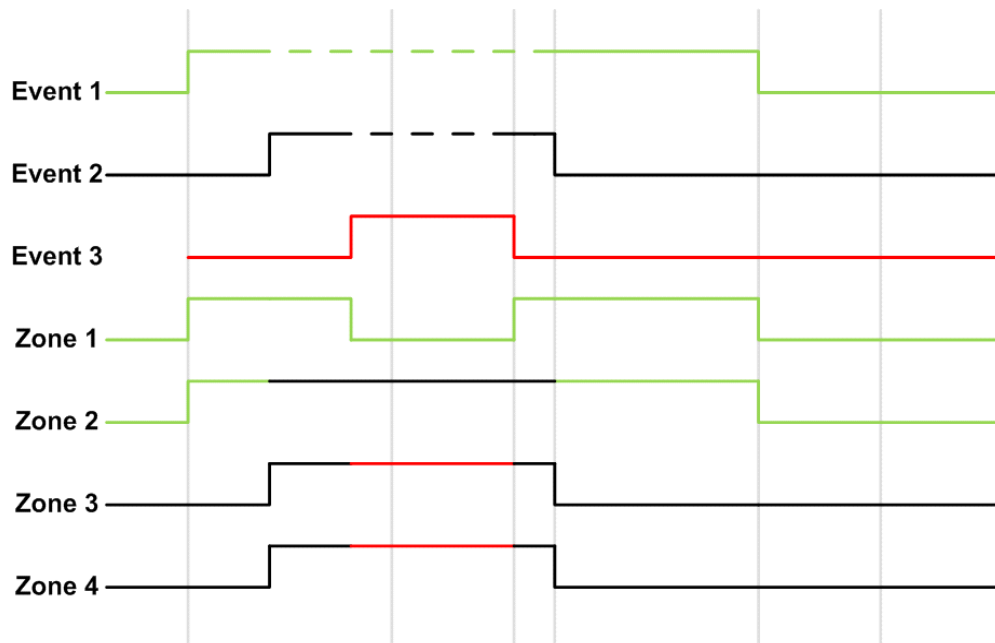

Figure 3: Chronogram with 3 events in coexist mode
The chronogram on figure 3 describes the process for cancel All mode situation:
- Figure 3: In coexist mode.